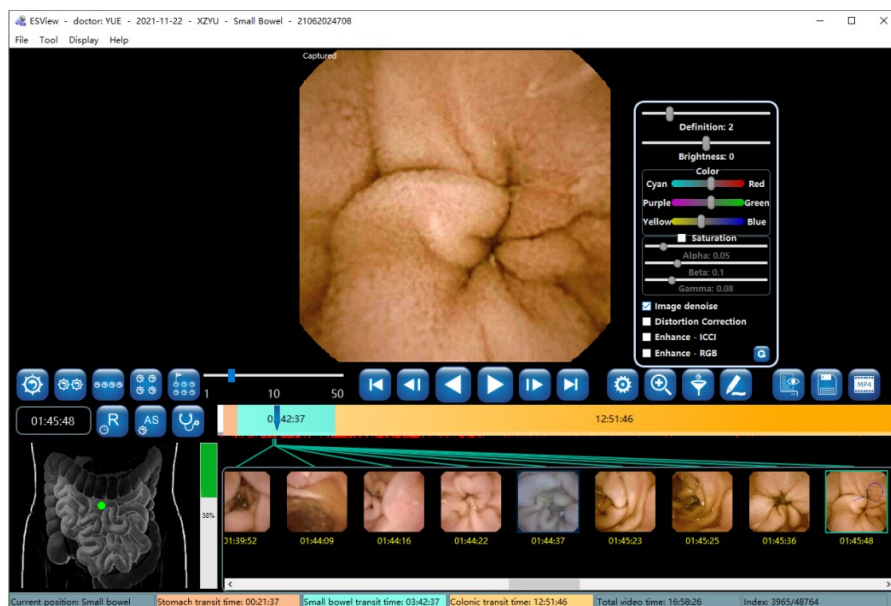

Figure 4-32: Image Denoise
2. ESView software is equipped with image denoise algorithm. Check the “Image denoise” box and the effect as shown in Figure 4-32. To undo the denoising, uncheck the “Image denoise” box.